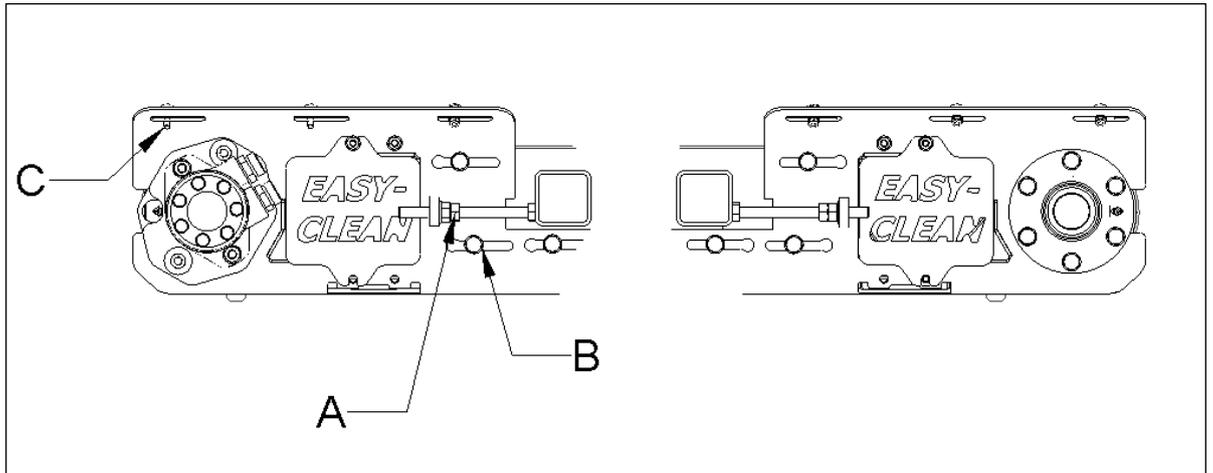

Fig. 4-3
- Fig. 4-3 **Tightening of the conveyor belt** is carried out as follows: Adjust only the motor driven roller on the left hand side. First, loosen the nuts **B** and **C** (6 total on front and 6 total on back side of collector), second loosen counter nut **A** (1 on front and 1 on back side), then turn the other nut with a spanner, make sure the roller is moving out. Move the roller on front and back side of the collector the same distance.
- Fig. 4-3 Now loosen the belt by loosening bolt **A**, and then bolt **B**.